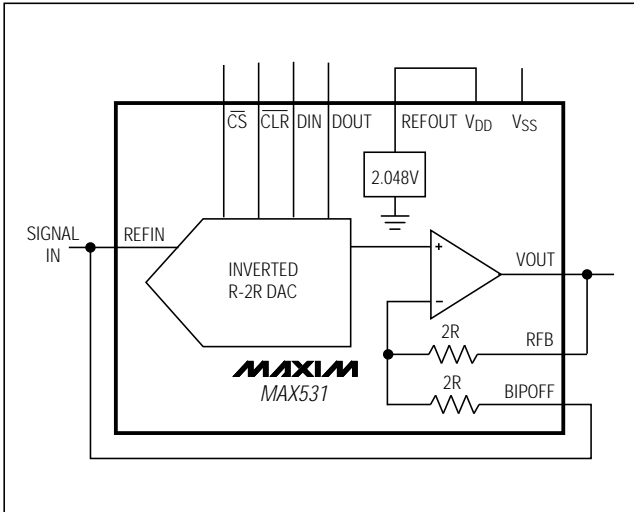

Figure 9. MAX531 Connected as Four-Quadrant Multiplier. The unused REFOUT is connected to V_{DD} .
The MAX531 can be used as a four-quadrant multiplier by connecting BIPOFF to REFIN and RFB to VOUT, using (1) an offset binary digital code, (2) bipolar power supplies, using dual power supplies, and (3) a bipolar analog input at REFIN within the range $V_{SS} + 2\text{V}$ to $V_{DD} - 2\text{V}$, as shown in Figure 9.